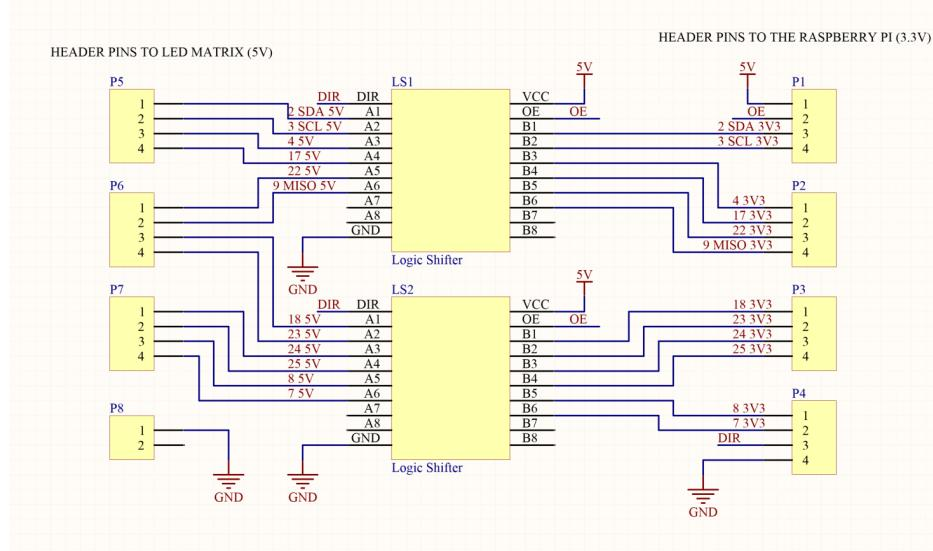

Figure 1: Logic Shifter schematic
In Figure 1 the wire labels correspond to the name of the GPIO pin the signal comes from on the raspberry pi. The data sheet for the logic shifter IC chip can be found at:
6. Repeat this process for the rest of the pins, following along with the circuit diagram in Figure 1, making sure each channel of the shifter is working correctly.